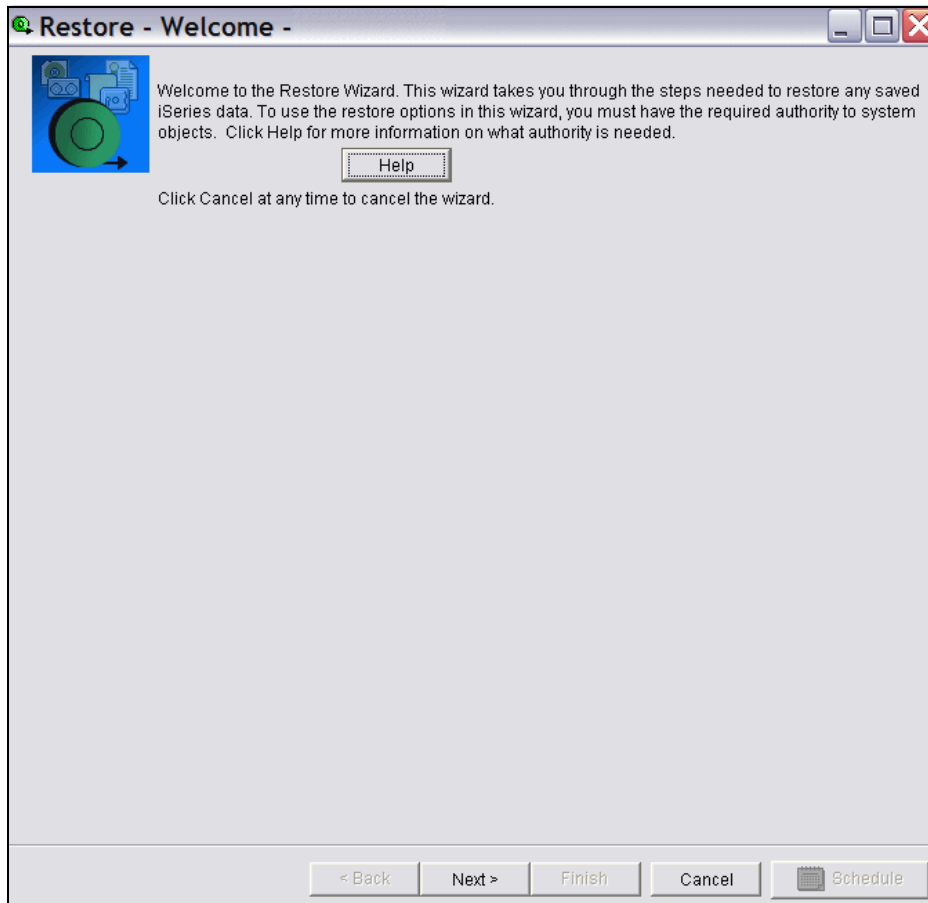

Figure 5-87 Restore Domino data with BRMS, Welcome panel
7. Read through the Restore window shown in Figure 5-87 on page 267, and click **Next**.